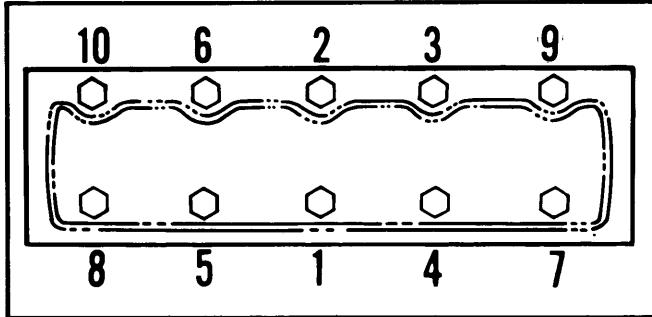

Fig. 3 Cylinder Head Tightening Sequence
2) Apply sealing compound to threads and underside of heads on cylinder head bolts and install finger tight. Gradually tighten bolts in sequence as shown in Fig. 3. Reverse removal procedure for remaining components.